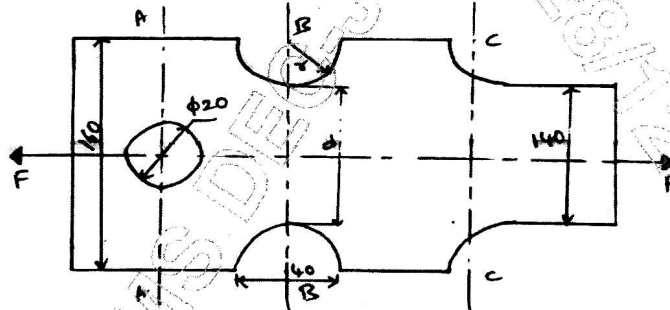

Fig.Q2(b)
b. A flat bar shown in Fig.Q2(b) is subjected to an axial load of 100 kN. Assuming that the stress in the bar is limited to 200 N/mm², determine the thickness of bar.